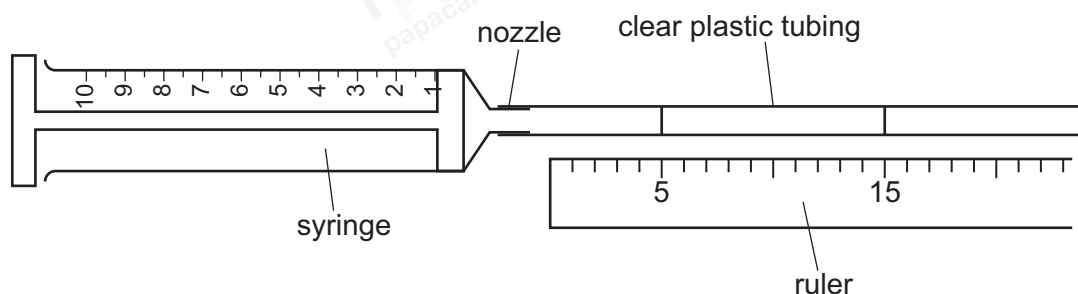

Figure 1.1
- step 3 Put clear plastic tubing onto the nozzle of a 10 cm³ syringe, as shown in Figure 1.1.
- step 4 Put two marks on the tubing so that one mark is 5 cm from the nozzle and the other mark is 15 cm from the nozzle, as shown in Figure 1.1.